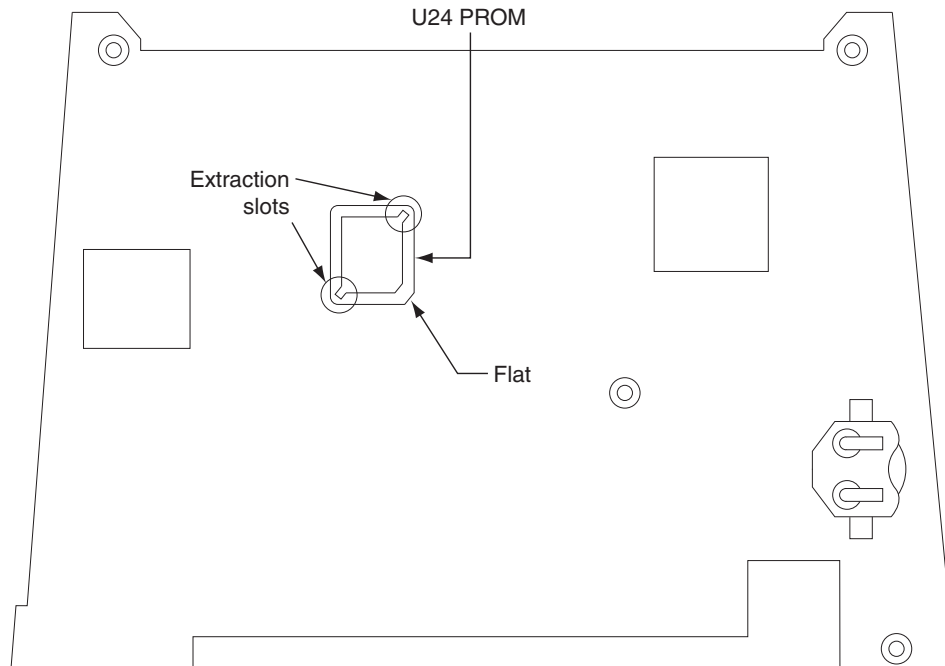

Figure 6
10. On the bottom side of the board, locate the PROM socket labeled U24. Please take notice that there is a flat corner located in the lower right corner of the socket. This flat corner will align with a flat corner on the PROM. See figure 6 below.